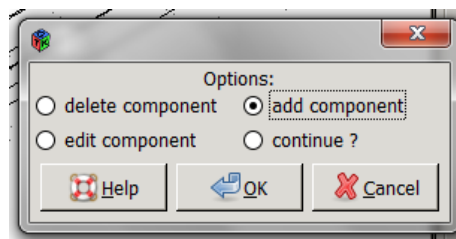

Figure 8
**Step 8:** A pop-up box will then appear asking which action you wish to take, click *>add component* then click *>ok*. (figure 8)